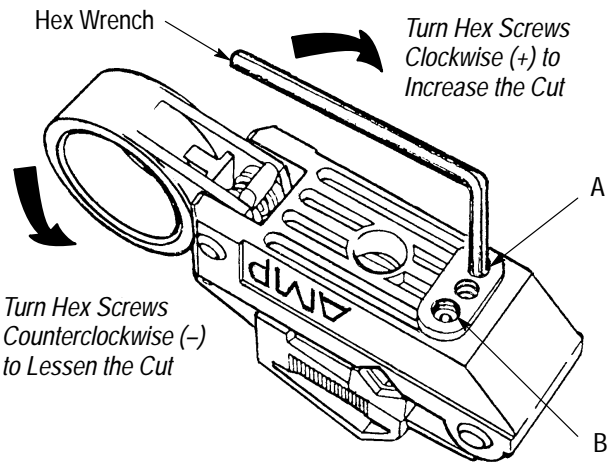
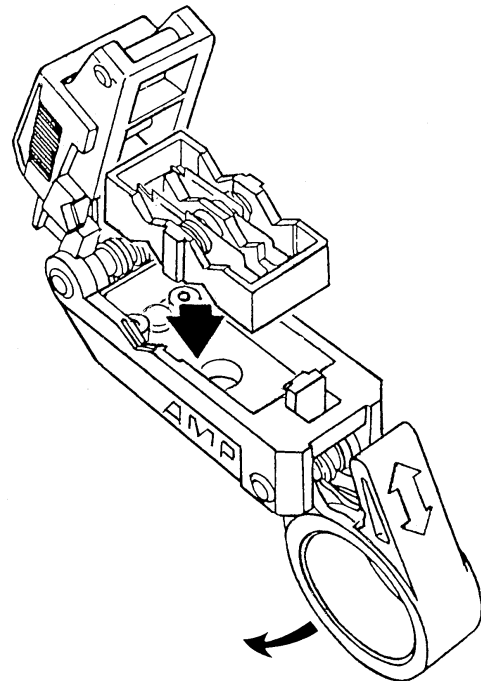

Figure 10
Figure 19
1. Inspect your first strip. Determine how deeply each blade has scored the cable. See Figure 10 for the proper direction you may have to adjust.
2. Adjust blade depth to match your cable by turning hex screws at base of tool (see Figure 10).
2. Push the cassette out of the tool by inserting the wrench, or appropriate object, through hole in the bottom of the tool. See Figure 19. Turn blade adjustment screws (see Figure 10) counterclockwise until they are fully retracted.